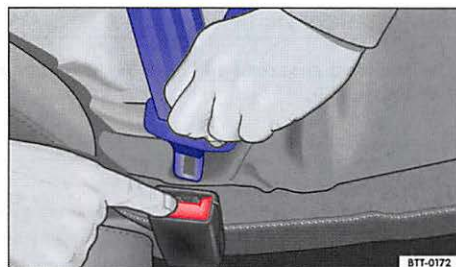

Fig. 52 Releasing the buckle tongue from the belt buckle.
- Press the red button on the buckle ⇒ fig. 52. The buckle tongue is ejected.